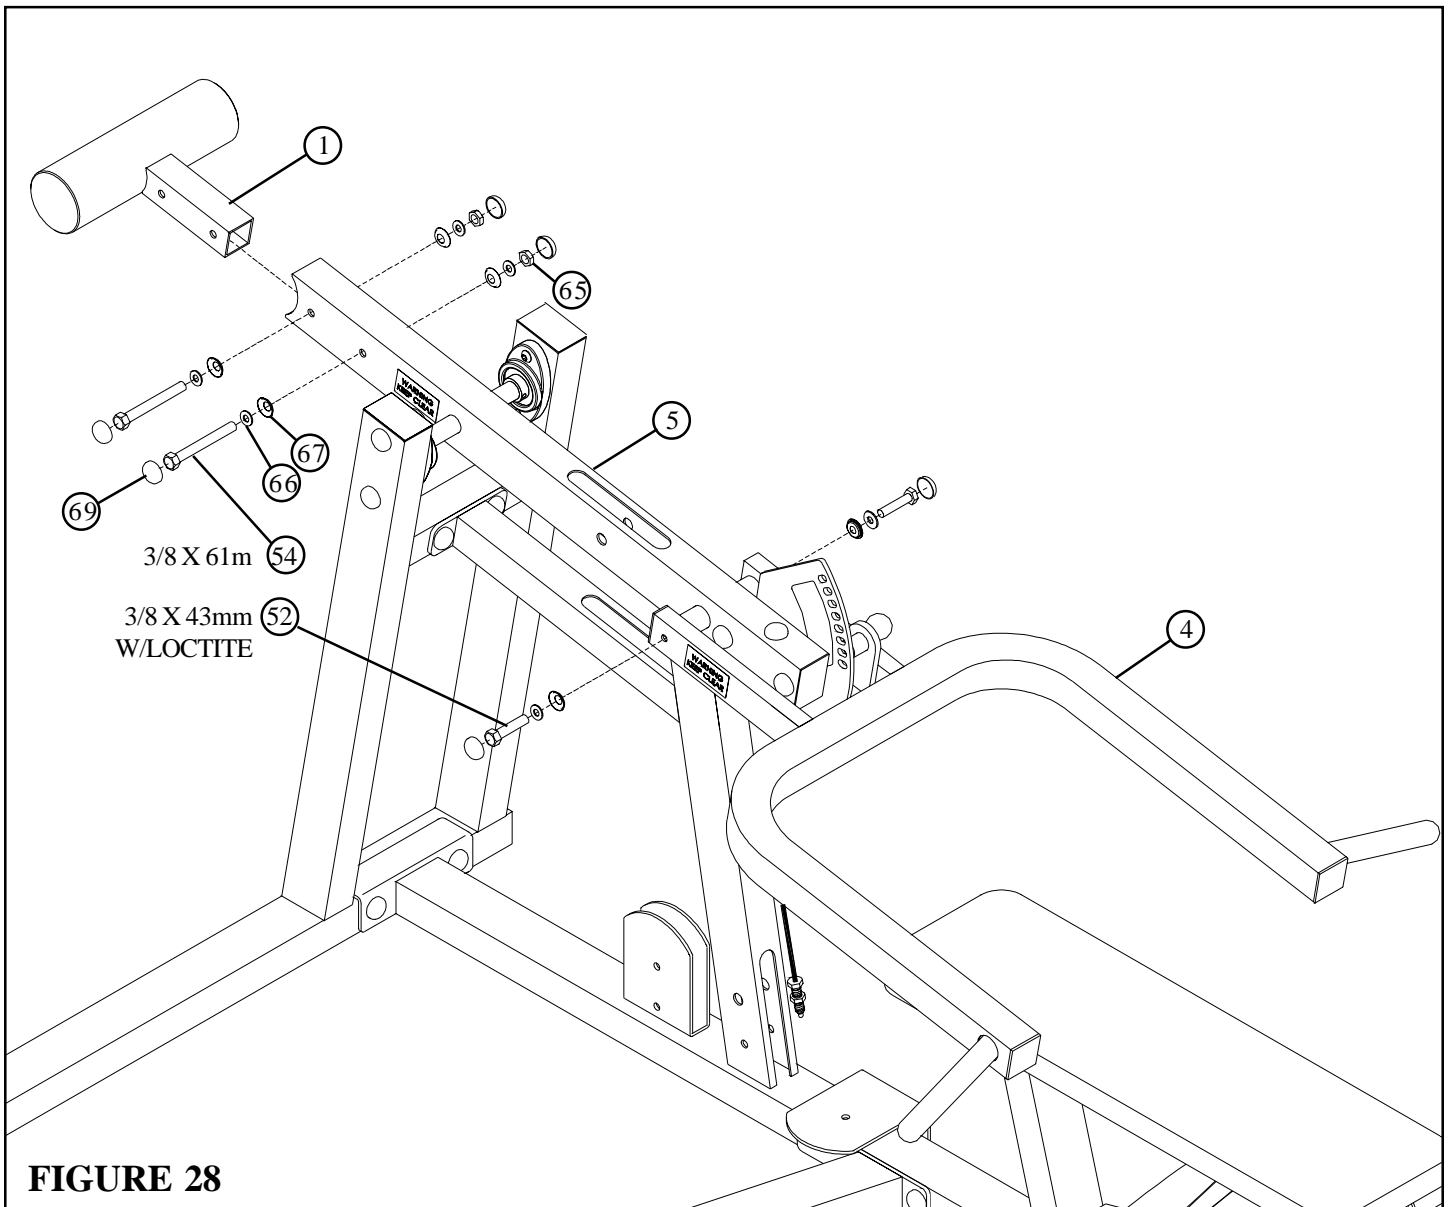

**FIGURE 27**
- **SECURELY** assemble the MULTI PRESS ADJUST PLATE (20) to the PIVOT ARM (5) using three RH CAPS (69), three BLACK RH CAPS (68), one 3/8 X 67mm BOLTS (55), one 3/8 X 73mm BOLT (57), one 3/8 X 90mm BOLT (58), six 3/8 SAE WASHERS (66), six 3/8 RH WASHERS (67), one 3/8 X 3/4 FLANGE SPACER (48), one 3/8 X 1 FLANGE SPACER (44), one MULTI PRESS CABLE (73) and three 3/8 LOW HEIGHT LOCK NUTS (65) as shown in FIGURE 27. (**NOTE: Assemble the MULTI PRESS CABLE to the second set of holes.**)
- Insert one 5-1/2 TAPPED PIVOT SHAFT (83) into the PIVOT ARM (5).